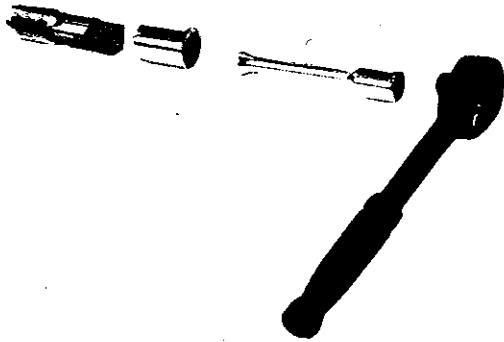

Figure 16. Use tools shown to remove gear bushing from gear housing.
- U. To remove the bevel gear flange bushing from the gear housing, a tool should be used similar to the one shown in Figure 16. (See lower unit tools section for sizes of component tools.) To use the tool, screw the tap firmly into the bushing and attach a slide hammer or screw-type puller to the extension shaft.